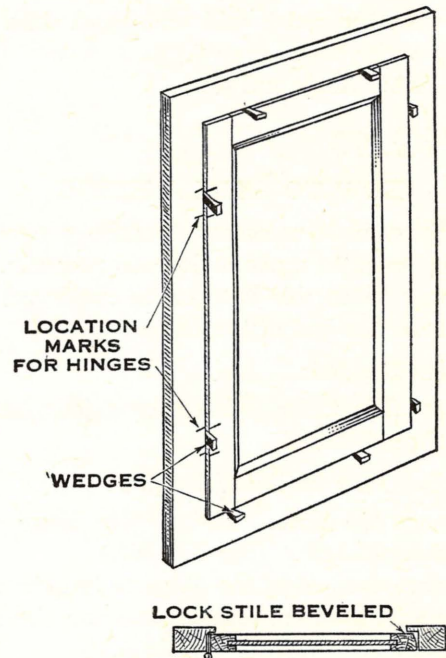

Fig. 450—A small door is fitted in the opening with the lock stile slightly beveled to allow for the swing
2. First locate the hinges on the door and frame; then mark the location with a knife or chisel. The door should be held in the proper position with wedges while marking the location of the hinges. The hinges should be located near the top and bottom rails of the door. (See Fig. 450.)